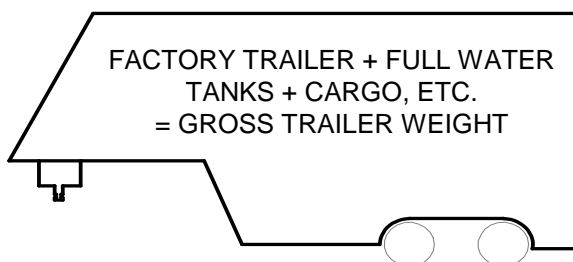

Figure 2
- Towing vehicle must have a manufacturer's rated towing capacity equal to or greater than the gross trailer weight (dry weight of the trailer plus payload of the trailer). (Figure 2)
Gross Trailer Weight (Figure 2): _____.